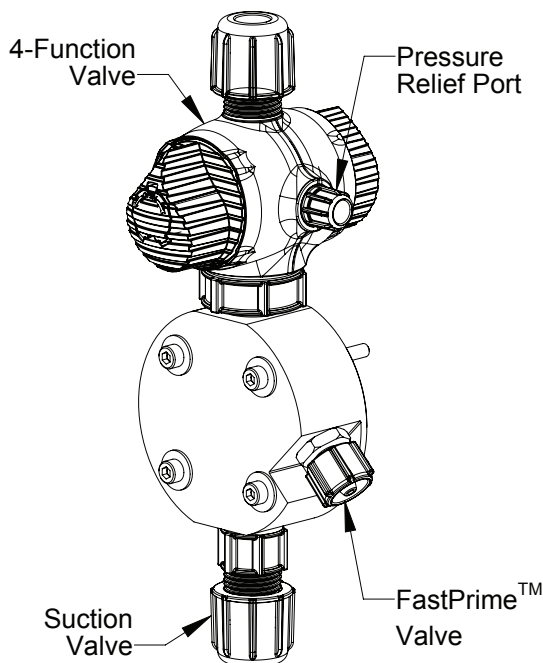

FIGURE 3
1. Connect pressure relief tubing to the pressure relief port (Figure 3). Route tubing to the solution tank. This tubing must not be submerged in the solution.
1. Connect the 3/8" outer diameter clear vinyl tubing provided with the pump to the FastPrime™ Valve barbed nozzle (Figure 3). Route tubing to the solution tank. This tubing must not be submerged in the solution.